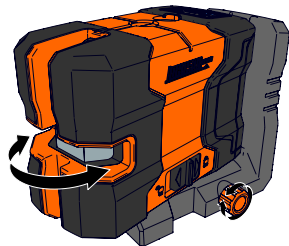

Figure 15
- When using the vertical (plumb) laser beam, rotate the unit to the desired position. Use the Fine-tuning adjustment knob to make small adjustments. (Figure 15)